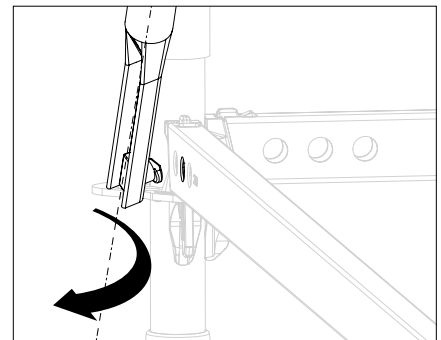

Fig. A5.02b
2. Screw the mounting finger into the hole of the lower horizontal ledger (**14a**). (Fig. A5.02b)